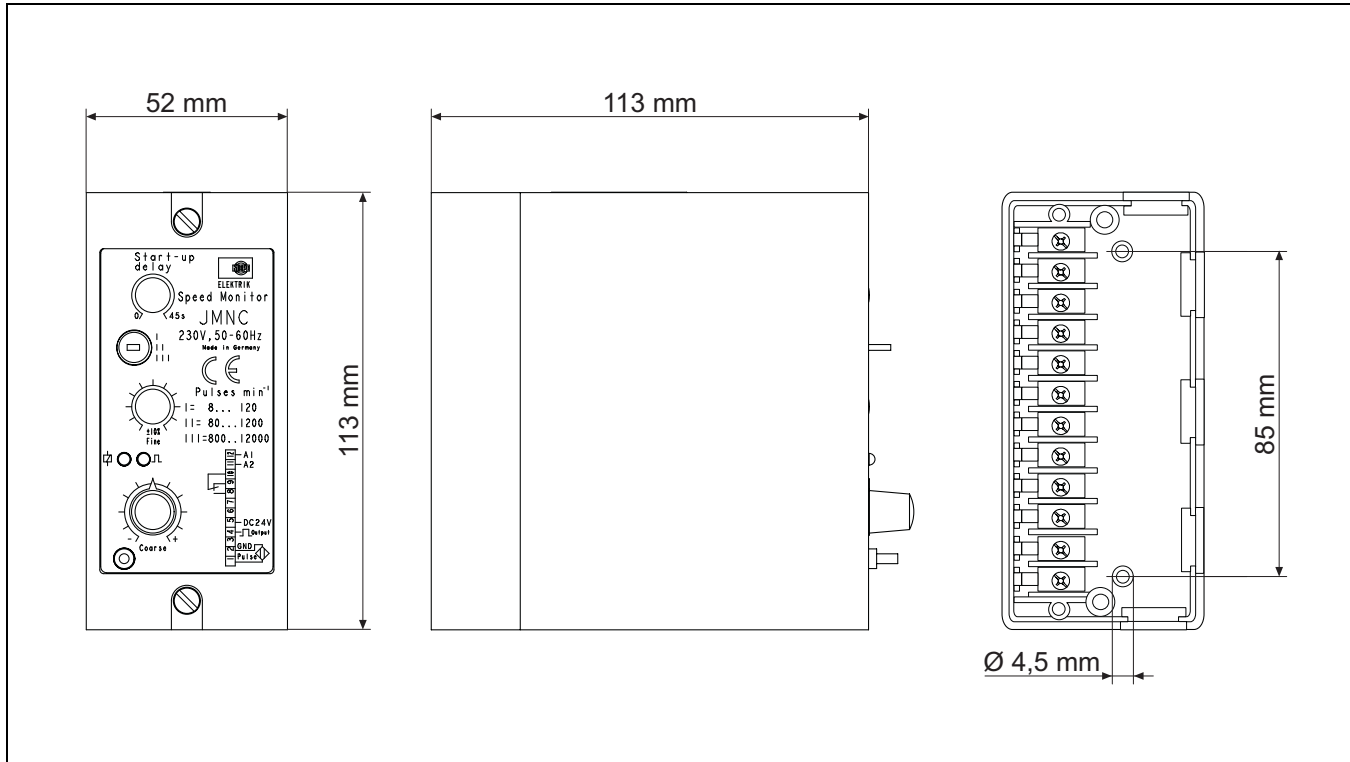

Fig. 4-1: JMNC, built-in dimensions
4. Drill the punched mounting bores (13) in the base bottom by means of a 4.5 mm driller (see fig. 4-1).
5. Drill the fastening holes, and tightly fasten the base (10) by means of two suitable M4 screws.
7. After the electrical connection, plug the rotational speed monitoring device (9) back onto the base (10) and fasten the screws.